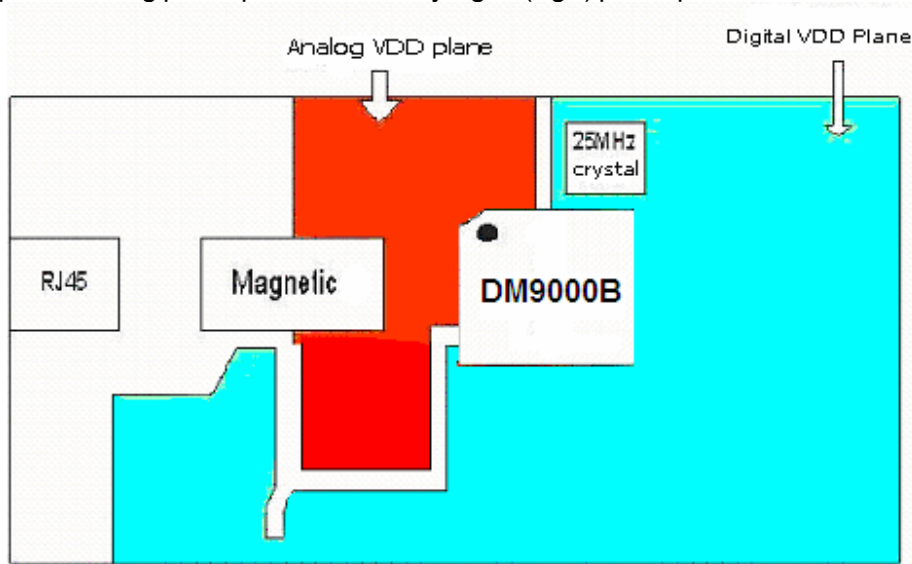
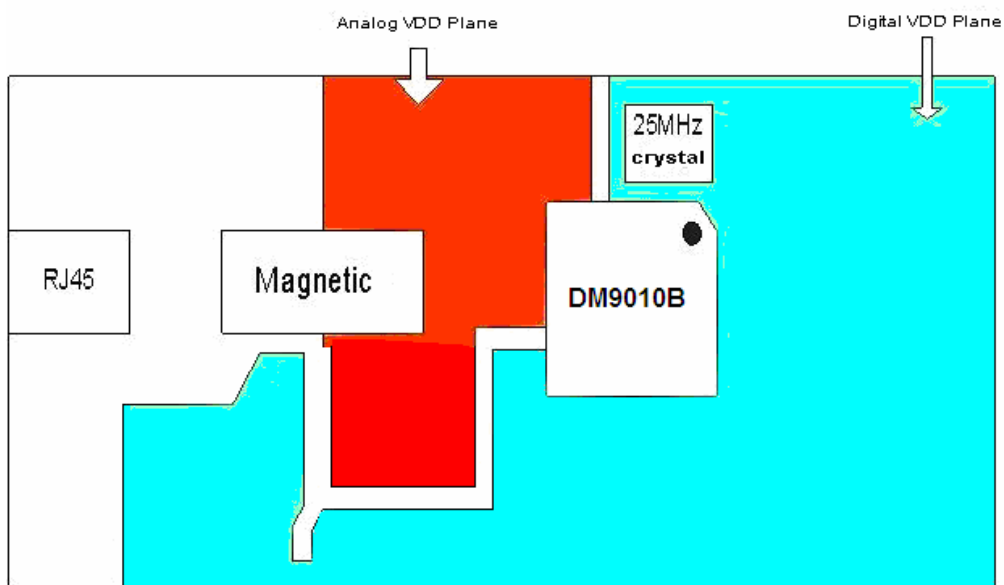

Fig. 5-1 Power planes partitioning for DM9000B
Fig. 5-2 Power planes partitioning for DM9010B
- The power planes should be approximately illustrated in **Fig. 5-1**, **Fig. 5-2**. No bead is needed to connect two power planes.